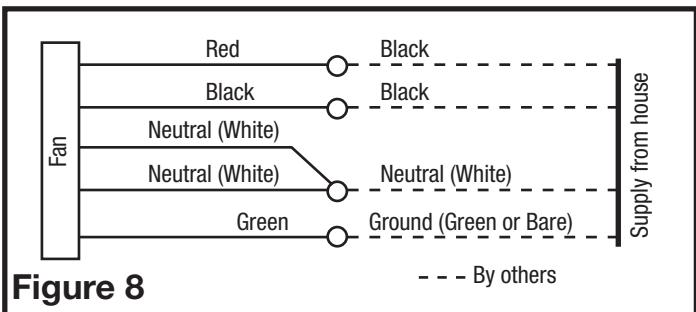

Figure 8
- 1a. From where you have access to inside the fan's junction box, connect the one white wire from the house to both the white wire from the fan's light receptacle and the white wire from the fan's exhaust receptacle. Connect the first black wire from the wall switch to the black wire from the fan's light receptacle. Connect the second black wire from the switch to the fan's exhaust receptacle. Connect the ground wire from the house to the green wire from the fan's receptacle (**Figure 8**). Use approved methods for all connections.